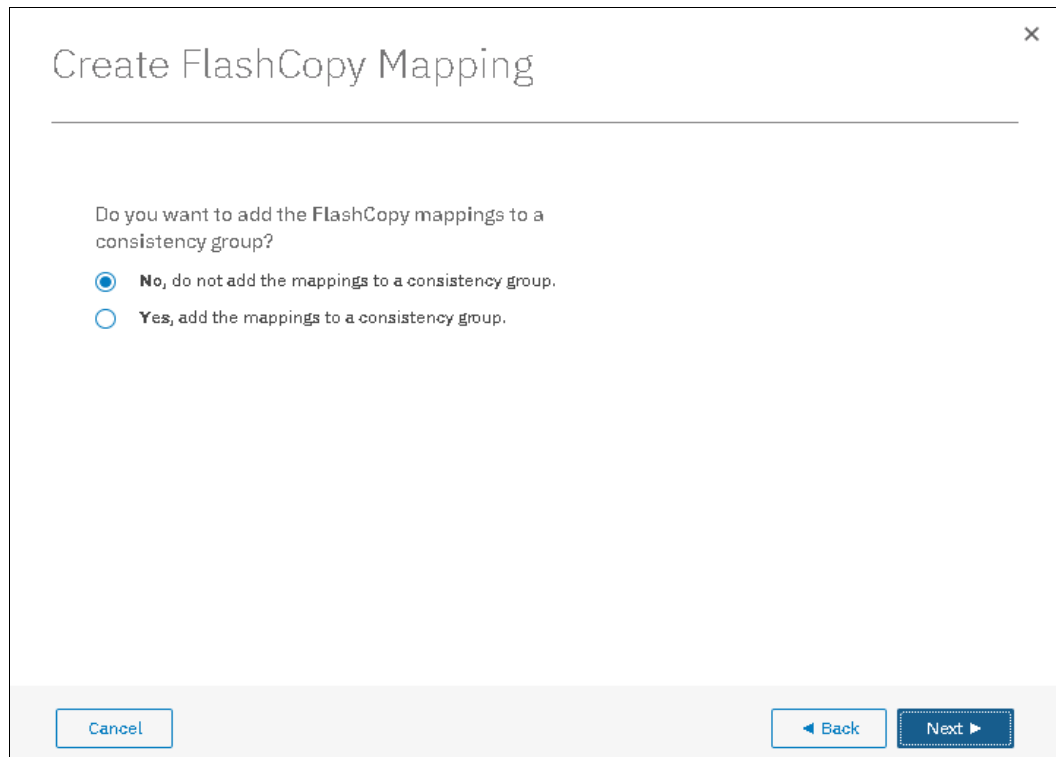

Figure 10-23 Creating FlashCopy mapping
3. You can choose whether to add this FlashCopy mapping to a Consistency Group as shown in Figure 10-23. Click **Next**.